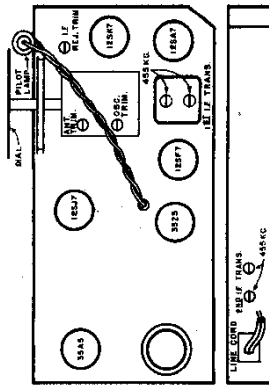

Fig. 1
**Alignment Procedure** (Refer to Fig. 1):